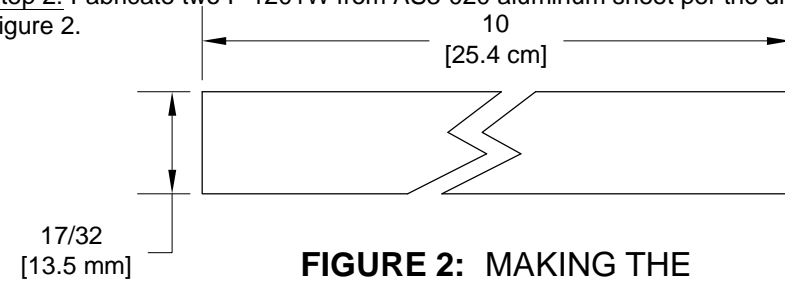

FIGURE 2: MAKING THE
Step 2: Fabricate two F-1201W from AS3-020 aluminum sheet per the dimensions in Figure 2.